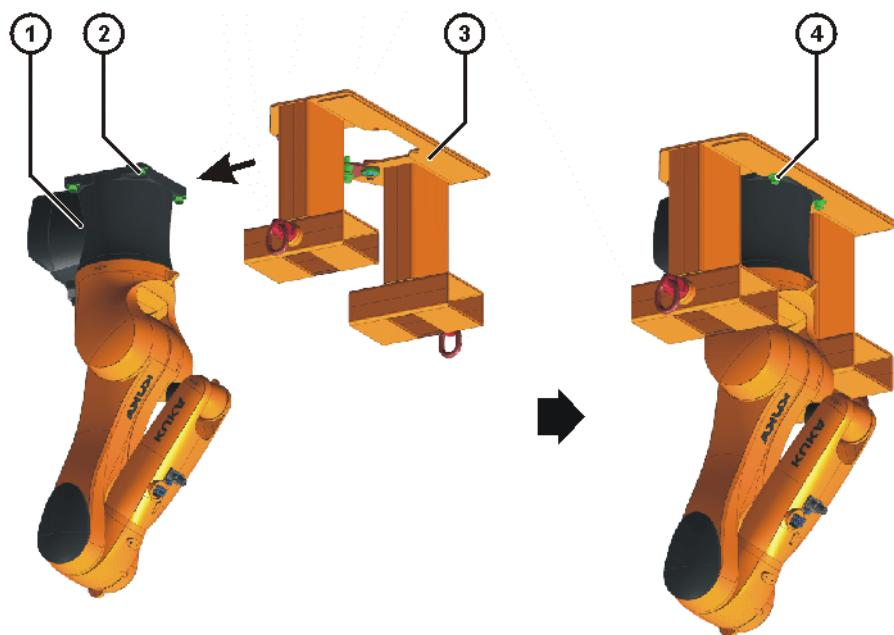

Fig. 11-7: Fastening the Load Lifting Attachment to the robot
11. Carefully push the Load Lifting Attachment onto the base frame of the robot from the front (**>>> Fig. 11-7**).